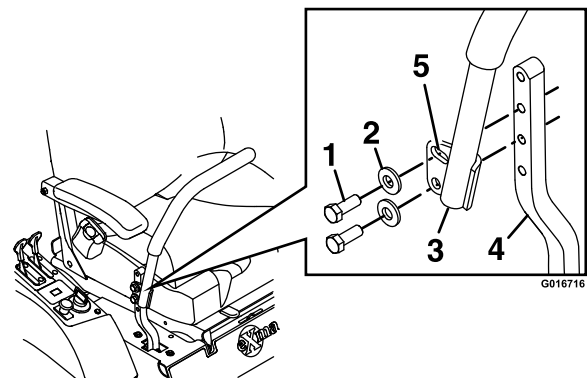

Figure 28
1. Remove the hardware holding the control lever to the control arm shaft (Figure 28).
2. Loosen the lower bolt just enough to pivot the control lever fore or aft Figure 28. Tighten both bolts to secure the control in the new position.